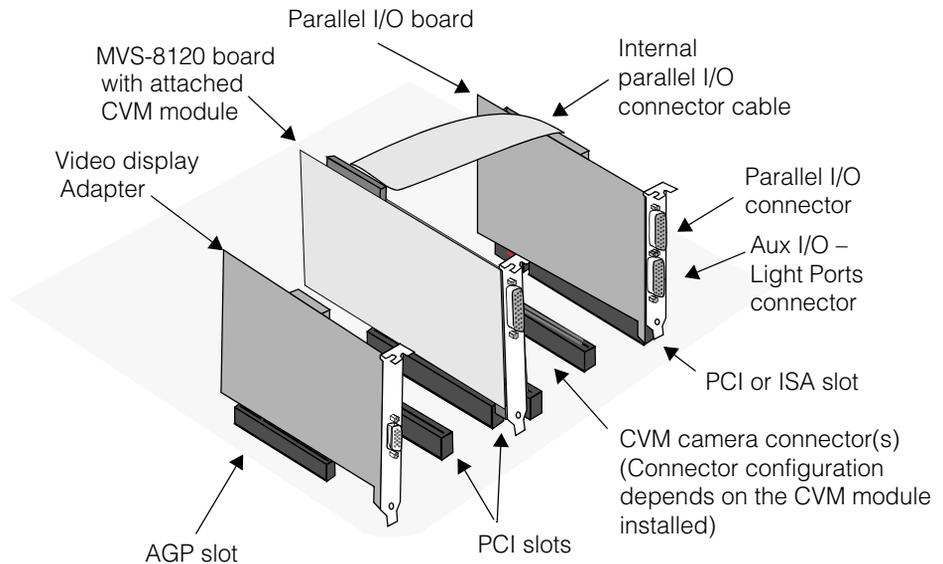
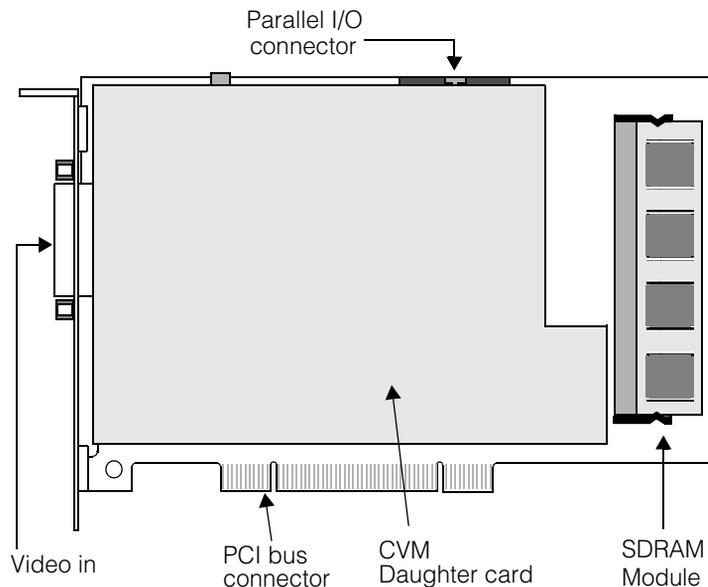

Figure 1. MVS-8120 system typical component placement
Figure 2. *MVS-8120 components and connectors*
Figure 1 shows the placement of components for a typical MVS-8120 frame grabber system.
The MVS-8120 frame grabber installs into a PCI bus slot of the host computer. Figure 1 on page 16 shows its location in a typical system. Figure 2 shows the components and connectors of the MVS-8120.
- Attach one end of the ribbon cable to the MVS-8120's 40-pin connector at position J2. The location of the parallel I/O connector on the MVS-8120 is shown in Figure 2 on page 17.
4. Attach one end of the ribbon cable to the MVS-8120's 40-pin connector at position J2. The location of the parallel I/O connector on the MVS-8120 is shown in Figure 2 on page 17.